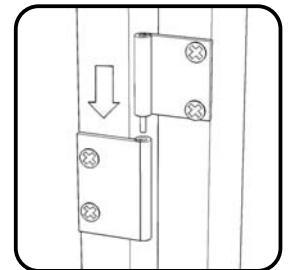

Figure 7
Attach Doors (K) and (L) to unit by sliding the door lift hinges into the side panels lift hinges. (See Figure 7)